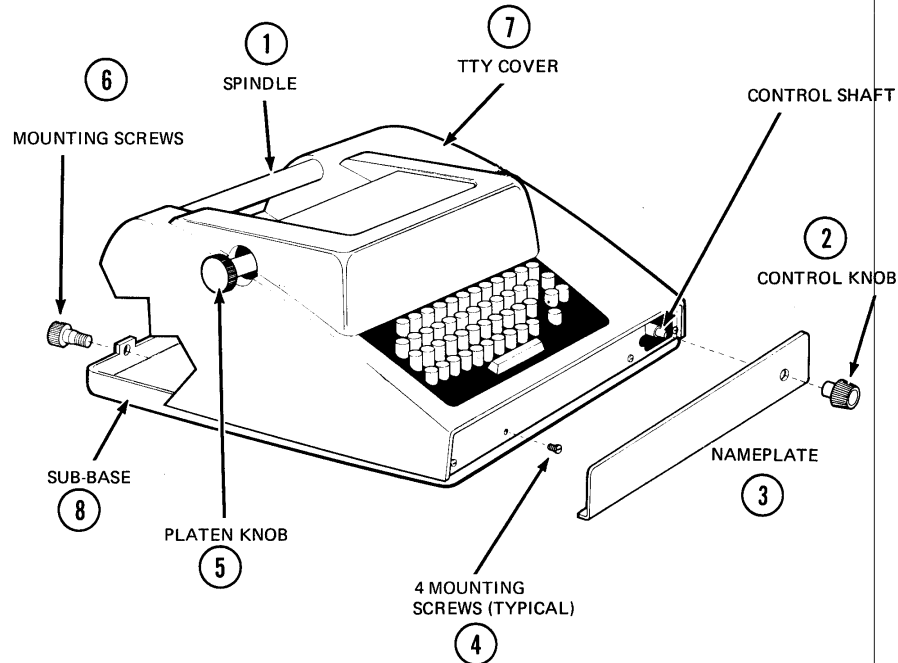

Figure 2.3 Model 33 Teletypewriter Cover Removal
**2.3.1 TTY COVER REMOVAL.** Follow these procedures to remove the TTY cover. Refer to Figure 2.3.
2. Remove the paper roll and spindle (1).
3. Pull off the LINE-OFF-LOCAL slip-fit rotary control knob (2).
4. Remove nameplate (3) by pulling down and off.
5. Unscrew four slot-head mounting screws (4) from front of TTY.
6. On friction-feed TTYs, pull platen knob (5) off shaft. On sprocket-feed TTYs, unscrew platen knob retaining screw and pull platen knob (5) off shaft.
7. Unscrew three mounting screws (6) from rear of TTY.
8. On Automatic Send-Receive (ASR) TTYs, unscrew the slot-head screw from the left rear corner of tape reader cover (not shown on Figure 2.3).
9. Gently lift TTY cover (7) straight up from the TTY sub-base (8).